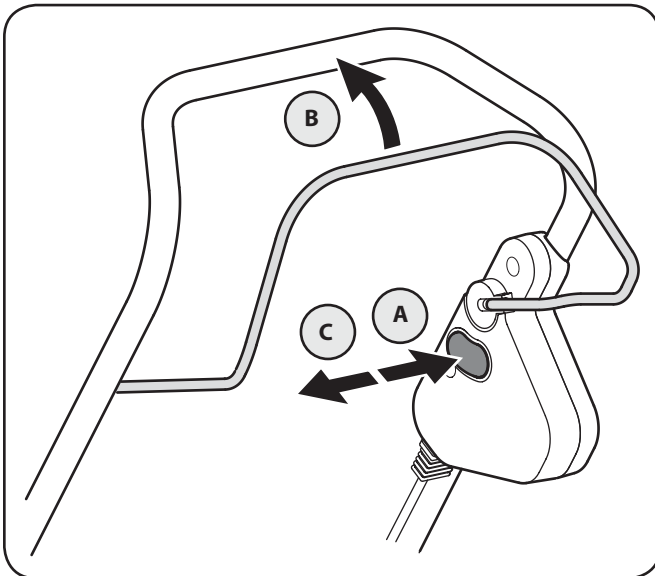

Figure 5-2
2. See Fig. 5-2 for starting the mower: